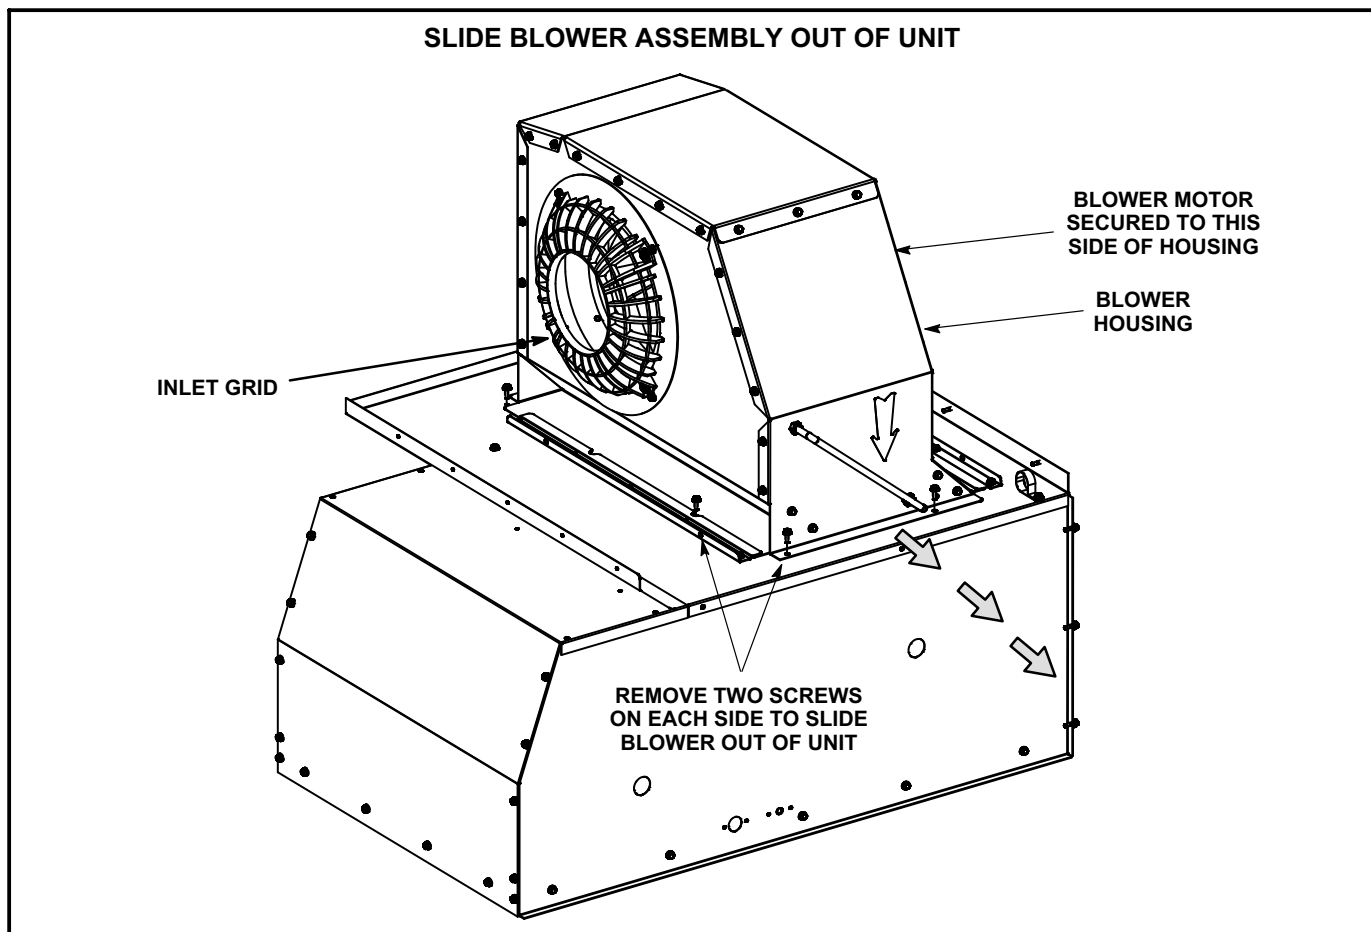

FIGURE 3
- 7- Remove four screws securing blower assembly to unit. See figure 3.
- 15- Install blower assembly flanges into rails on the blower deck in the same manner it was removed. Secure into place using four screws shown in figure 3.